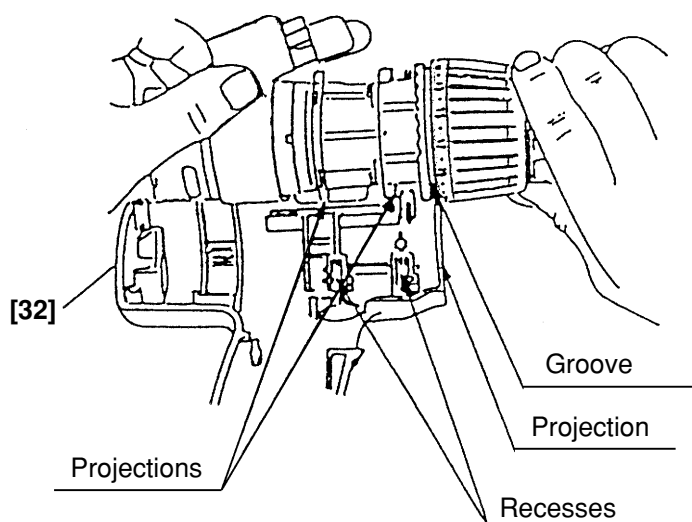

Fig. 15
- (b) Install the assembly reassembled in step (3) into Housing (A). Note that the projections on the Front Case **[9]** and the Motor Spacer **[25]** are engaged in the recesses in Housing (A), and the projection on Housing (A) is engaged in the groove of the Cap **[4]**. (See Fig. 15.)